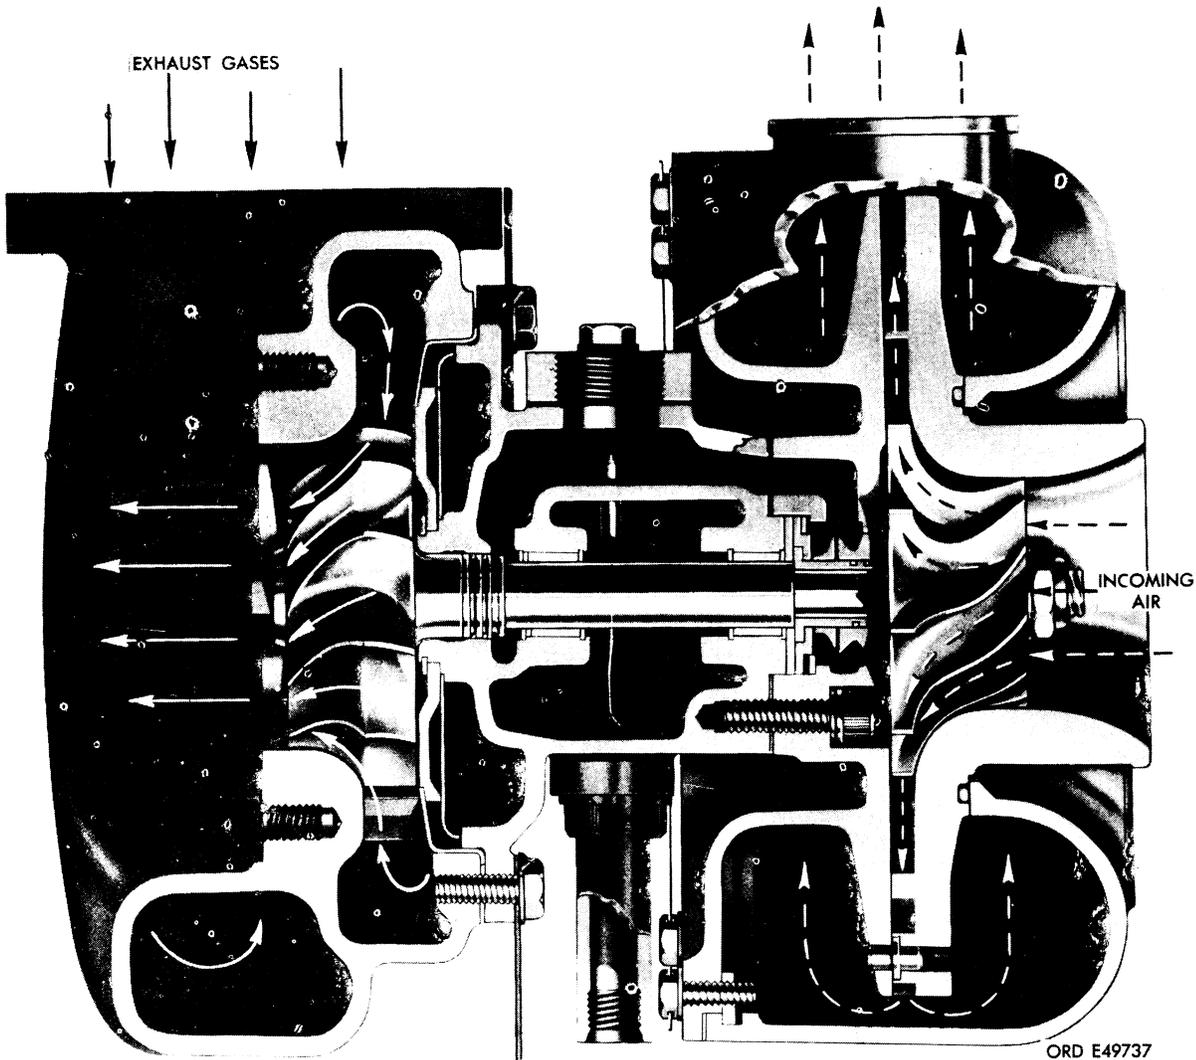

FIGURE 7. TYPICAL TURBOCHARGER - AIR FLOW DIAGRAM.
b. Operation (fig. 7). Operation of the four models of turbochargers is as follows:
- (1) Exhaust gases from the engine enter turbine housing through the exhaust inlet on the housing. Gas flows around the turbine housing and radially inward through a set of nozzles on the nozzle assembly. These nozzles increase the velocity of the exhaust gas before it enters the turbine wheel.
- (2) Pressure of the exhaust gas is converted into kinetic energy which acts